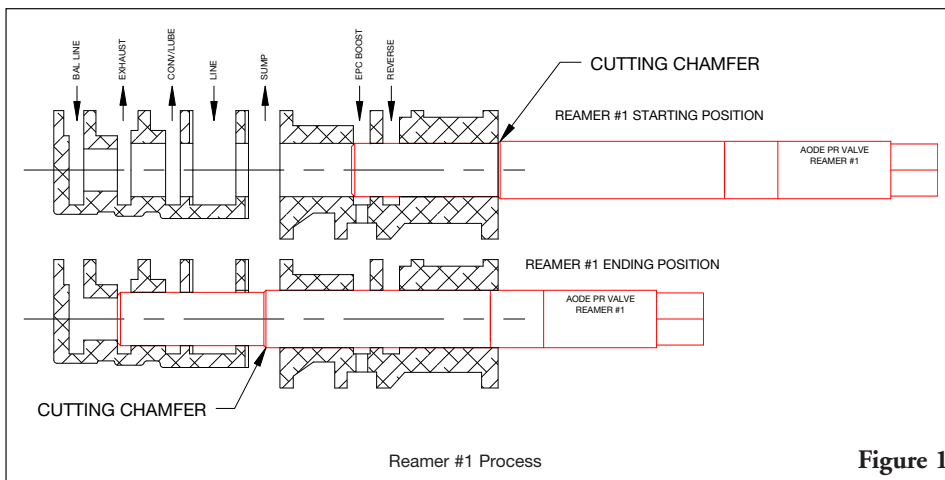

Figure 1
6. Continue reaming until the reamer bottoms against the outboard face of the balance line bore (see Figure 1).